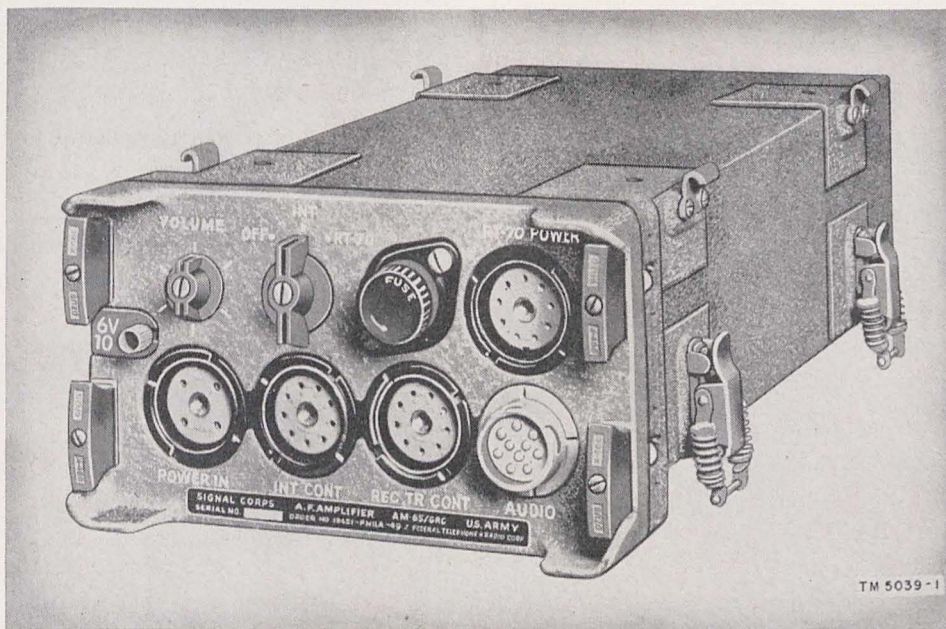

Figure 5. AF Amplifier AM-65/GRC.
c. Mechanically the receiver-transmitter is a panel-chassis assembly contained in a metal case. Snap catches are provided on the case for mounting it on AF Amplifier AM-65/GRC (fig. 5). When the case is removed (figs. 43, 44, and 45) the r-f and i-f (intermediate-frequency) chassis assemblies are exposed. All tubes are mounted on these vertical chassis.
(fig. 5)